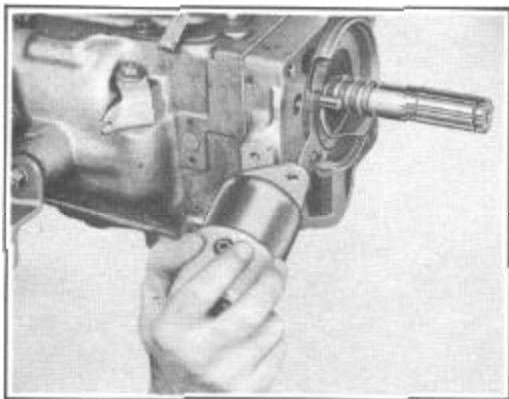

FIGURE 17
7. Remove the solenoid attaching screws, turn the solenoid one-quarter turn clock-wise and remove, Figure 17.